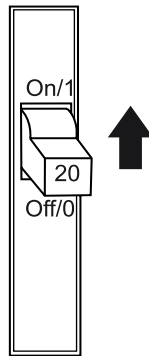

Figure 133. GFCI Circuit Breaker
2. Place a **GFCI circuit breaker** (Figure 133) in the **ON** position.